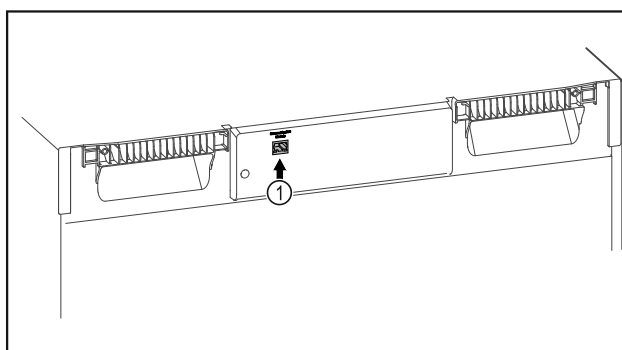

Fig. 138
- SmartModule Fig. 138 (1) is in use.